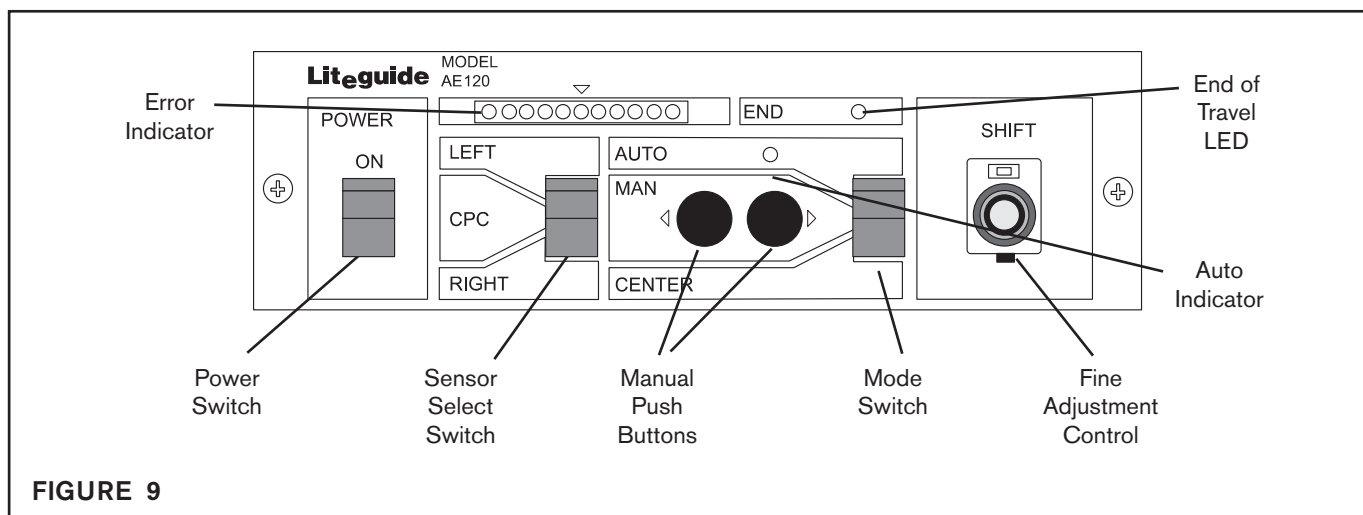

FIGURE 9
1. Set Mode Switch to **CENTER** (See Figure 9).
2. Set Fine Adjustment Control to 5.0 (mid-travel) (See Figure 9).
5. Set the Sensor Selector Switch to **LEFT** or **RIGHT** as appropriate (See Figure 9).
6. Move the sensor to the edge of the web until the center green light in the Error Indicator array glows (See Figure 9).
7. Set the Mode Switch to **AUTO** (See Figure 9).
9. If the web is slightly misaligned with the process, it can be moved with the Fine Adjustment Control (plus or minus 0.20 In. [5 mm]) (See Figure 9).
1. Set the Mode Switch to **CENTER** (See Figure 9).
2. Set the Fine Adjustment Control to 5.0 (mid-travel) (See Figure 9).
5. Set the Sensor Selector Switch to **LEFT** (See Figure 9).
6. Move the left sensor to the web edge until the center green light in the indicator array glows (See Figure 9).
7. Set the Sensor Selector Switch to **RIGHT** (See Figure 9).
8. Move the right sensor to the edge of the web until the center green light of the Error Indicator array glows (See Figure 9).
9. Set the Sensor Selector Switch to **CPC** (See Figure 9).
10. Set the Mode Switch to **AUTO** (See Figure 9).
12. If the web is slightly misaligned with the center of the machine, it can be moved with the Fine Adjustment Control on the control panel (plus or minus 0.20 In. [5 mm]) (See Figure 9).